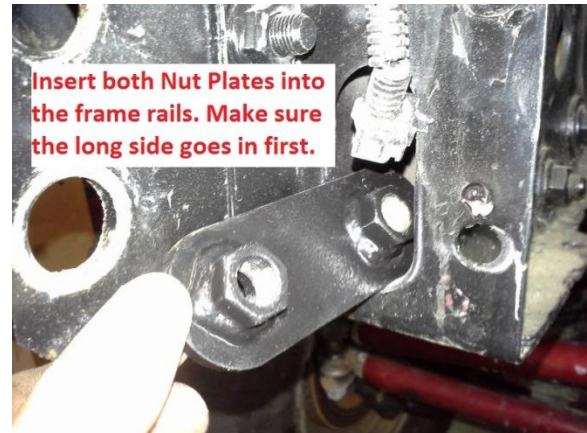

Fig 4
4. Insert each of the nut plates into the inner frame rail from the front openings. Note the positioning of the plates. **(Fig 4)**